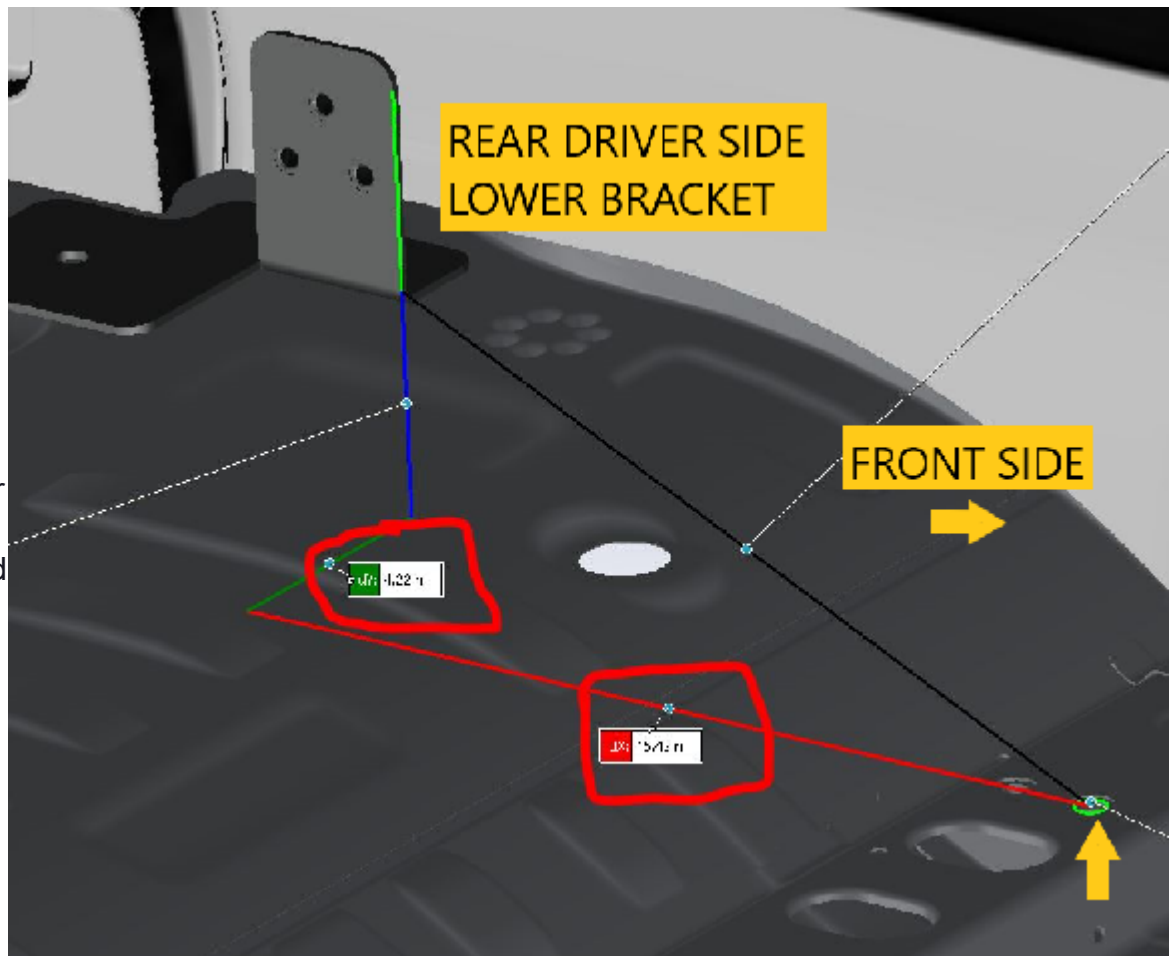

Fig.4
3) To Install lower base, mark up a point to locate the mounting point. Measure from the face of the (Item#3) to 15.45 in X 4.25 in towards Front side. Get access to the mounting point by cutting into OEM Vinyl Flooring. (Fig.4)